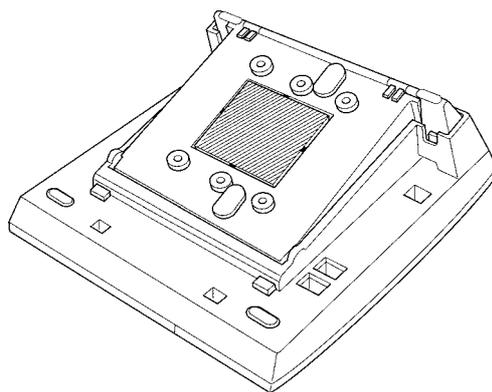

Figure 7-61 Removing the Knockout
4. Remove the shaded base plate knockout shown on *Figure 7-61 Removing the Knockout with nippers*.